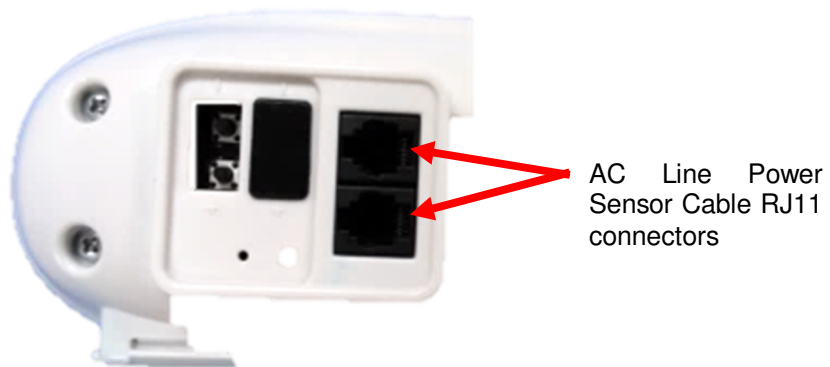

Figure 3. Connecting the **AC Line Power Sensor** to the **Bed Beacon** via the RJ11 connector
1. Connect the **AC Line Power Sensor** to the **Bed Beacon** via any RJ11 jacks as shown in *Figure 3*.